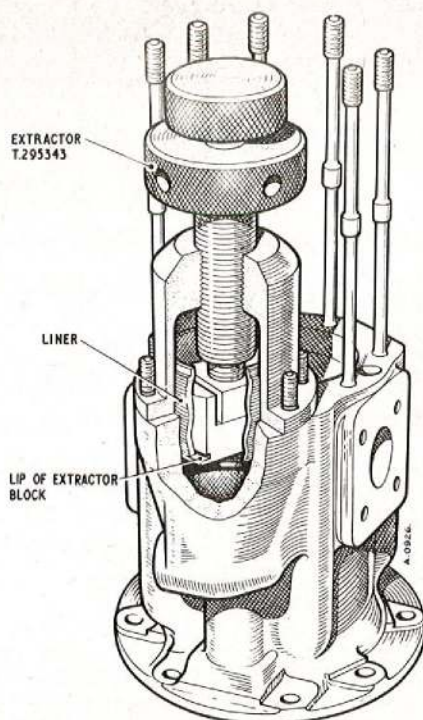

Fig. 9. Removing the control cylinder liner
67. Remove the liner, using the extractor T.295343 as shown in fig. 9, and remove the sealing ring from the pump liner bore.